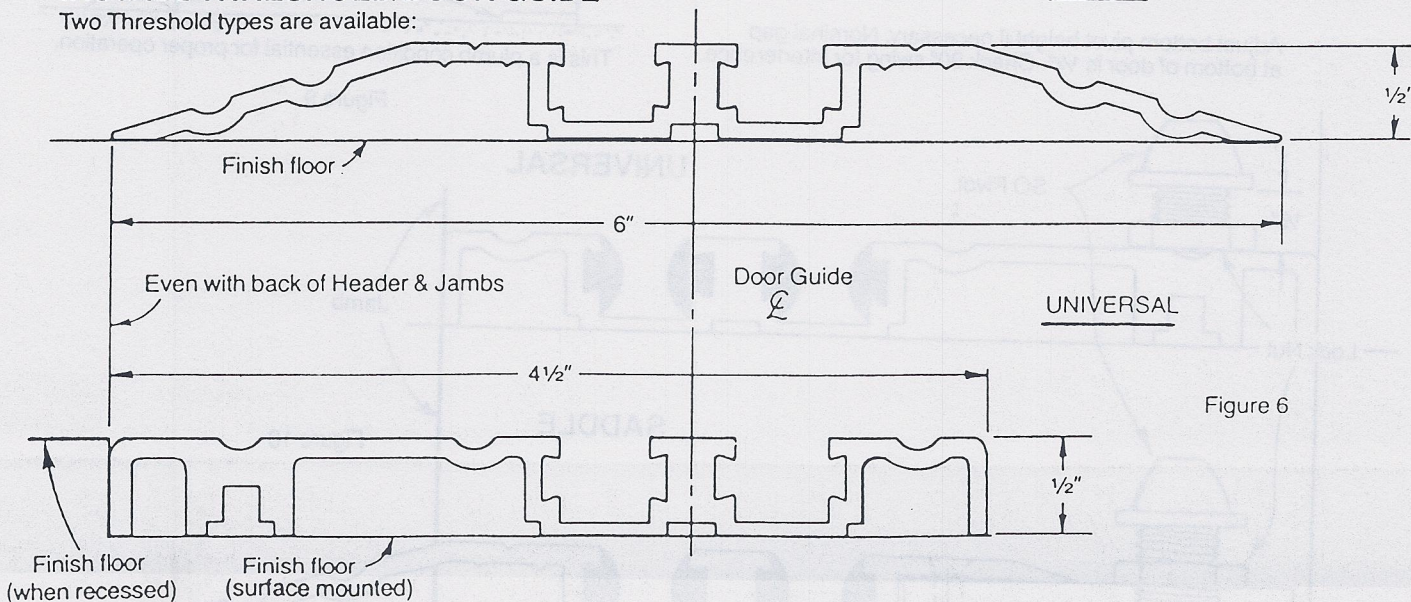

Figure 6
4. Check Threshold Recesses if used. (Figure 6)